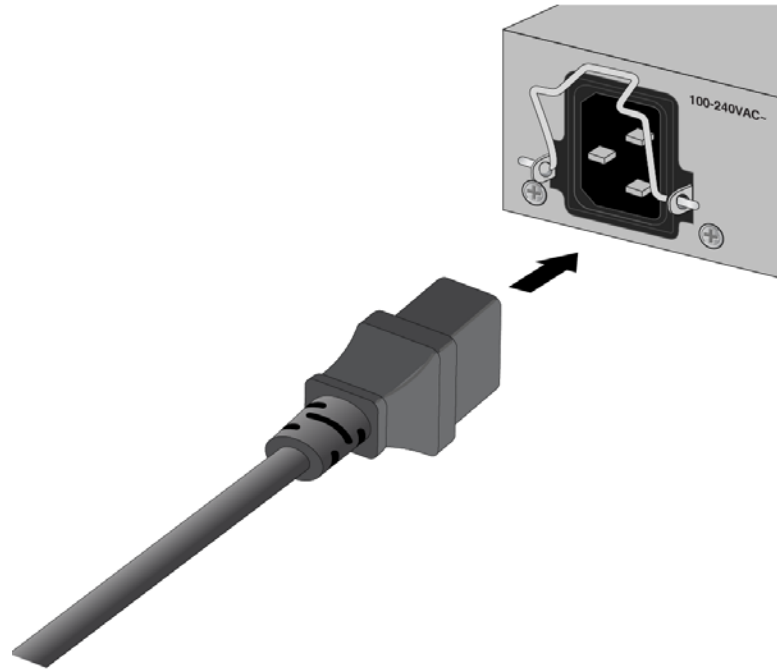

Figure 40. Connecting the AC Power Cord
2. Connect the AC power cord to the AC power connector on the rear panel of the switch. Refer to Figure 40 on page 79.